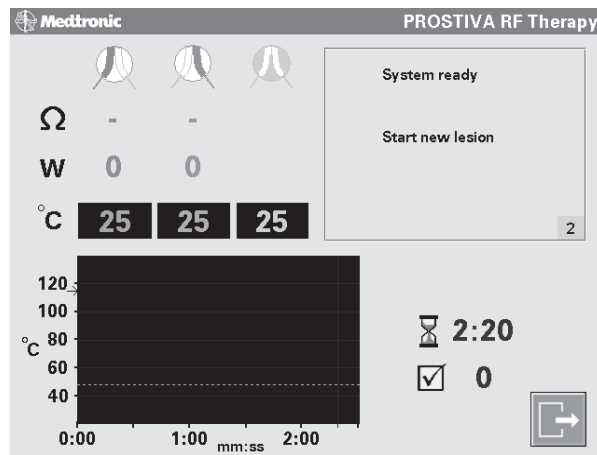

Figure 4-11. Confirm “System Ready” Status on Screen Display.
3. Confirm that the “System Ready” message appears on the screen display (Figure 4-11).